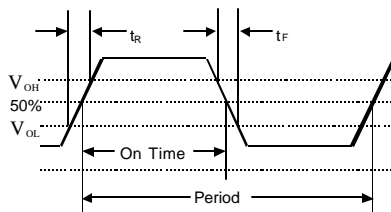
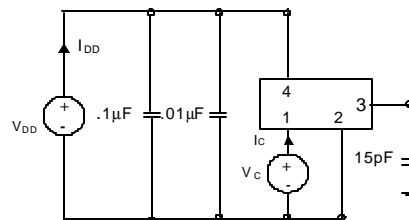

Figure 3. Output Waveform
Figure 4. Typical Output Test Conditions (25±5°C)
2. Figure 3 defines these parameters. Figure 4 illustrates the operating conditions under which these parameters are tested and specified. For  $F_o > 90$  MHz, rise and fall time is measured 20 to 80%.